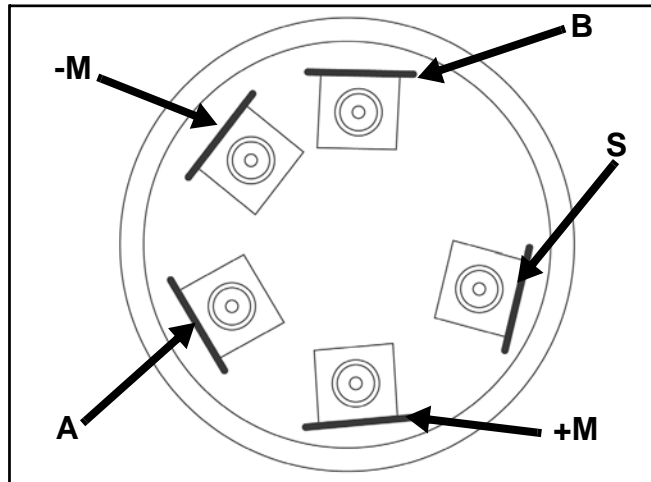

Figure 30
2. Verify that continuity exists between the terminals listed for the switch position. Verify that there is NO continuity between terminals not listed for the switch (Figure 30).